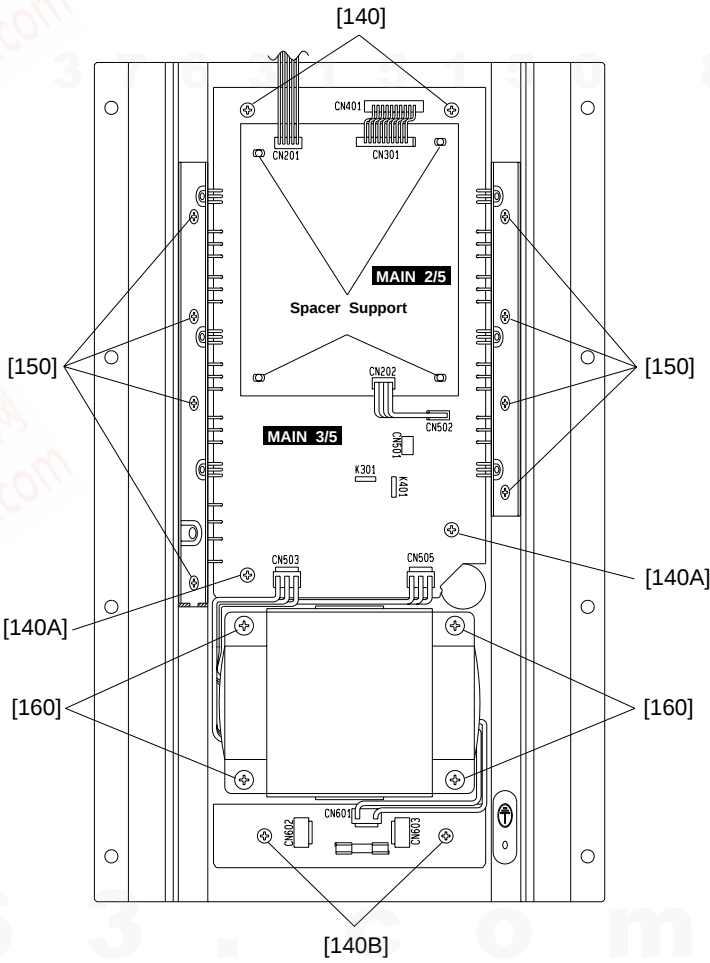

Fig.3
4-2 Remove the four (4) screws marked [160]. The power transformer can then be removed. (Fig.3)
6-3 Remove the MAIN 2/5 circuit board from spacer support. (Fig.3)
7-3 Remove the four (4) screws marked [140A]. The MAIN 3/5 circuit board can then be removed. (Fig.3)
8-2 Remove the two (2) screws marked [140B]. The MAIN 4/5 circuit board can then be removed. (Fig.3)